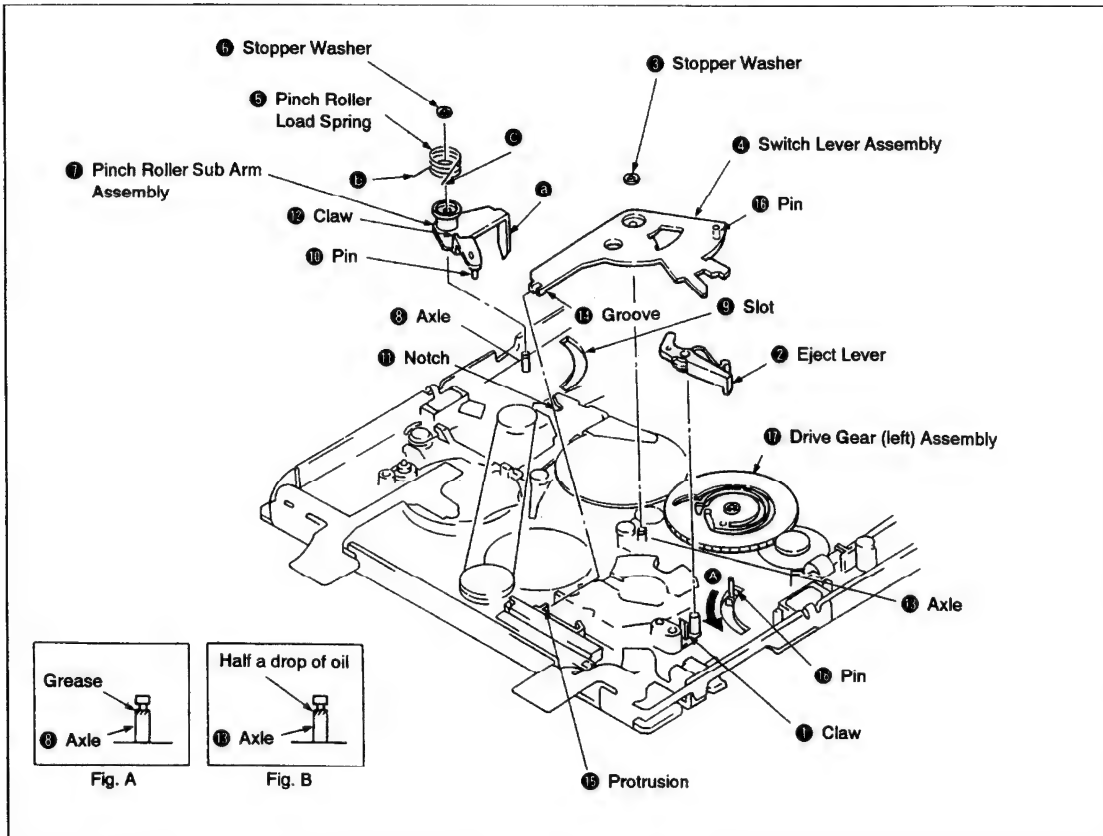

Fig. 3-15.
1. Removal (See Fig. 3-15.)
2. Installation (See Fig. 3-15.)